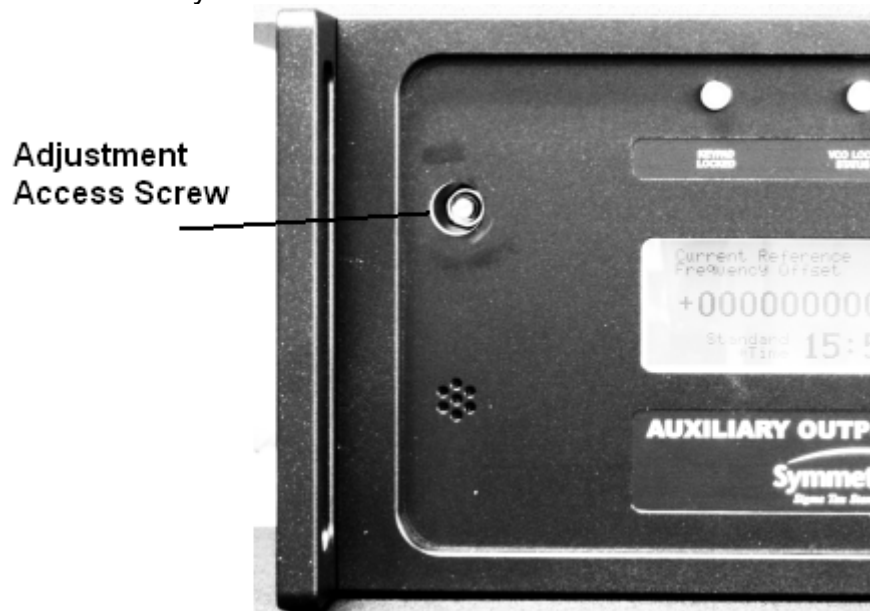

Figure 6.0. VCXO Coarse Adjustment Port Access.
2. To access the VCO coarse control, the access plug should be removed as in Figure 6.0. The VCO crystal oscillator frequency is adjusted by turning a slot-headed screw within the AOG housing. Using an insulated screwdriver and monitoring the phase voltage on the system data display, the voltage can be brought within the desired range. The adjustment must be made carefully to avoid damaging the oscillator - DO NOT USE EXCESSIVE FORCE WHEN TUNING THE COARSE CONTROL ADJUSTMENT SCREW (THIS IS A TEN TURN POT, AND MAY REQUIRE SEVERAL TURNS TO ACHIEVE LOCK).